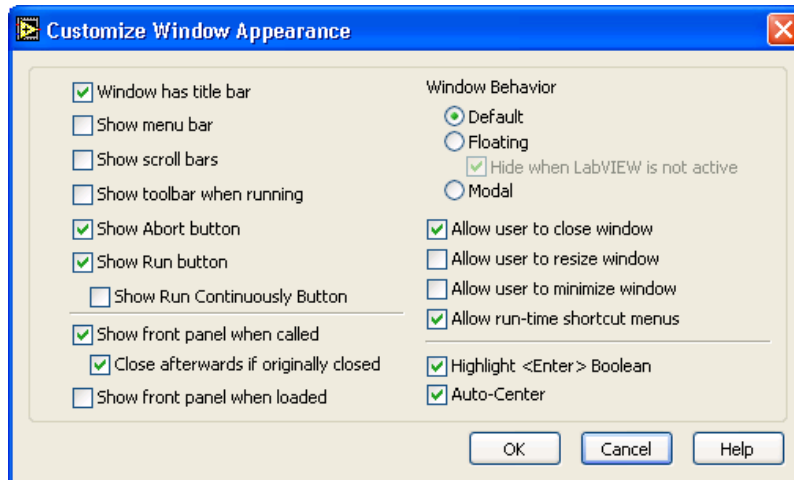

Figure 12.3
- d. Click the **Customize** button. Configure the window appearance as shown in the dialog box (Figure 12.3).